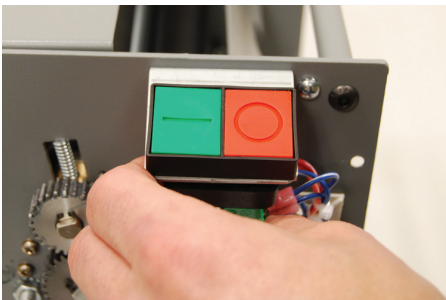
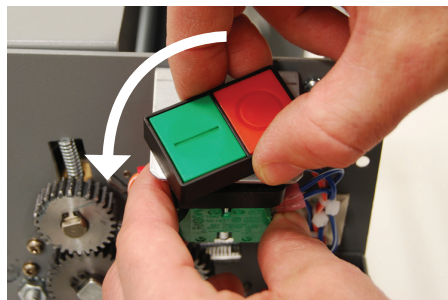

Fig. 10a
Fig. 10b
3. Grasp and hold lower part of switch (fig. 10a). Twist the button part of switch counter-clockwise to remove (fig. 10b).